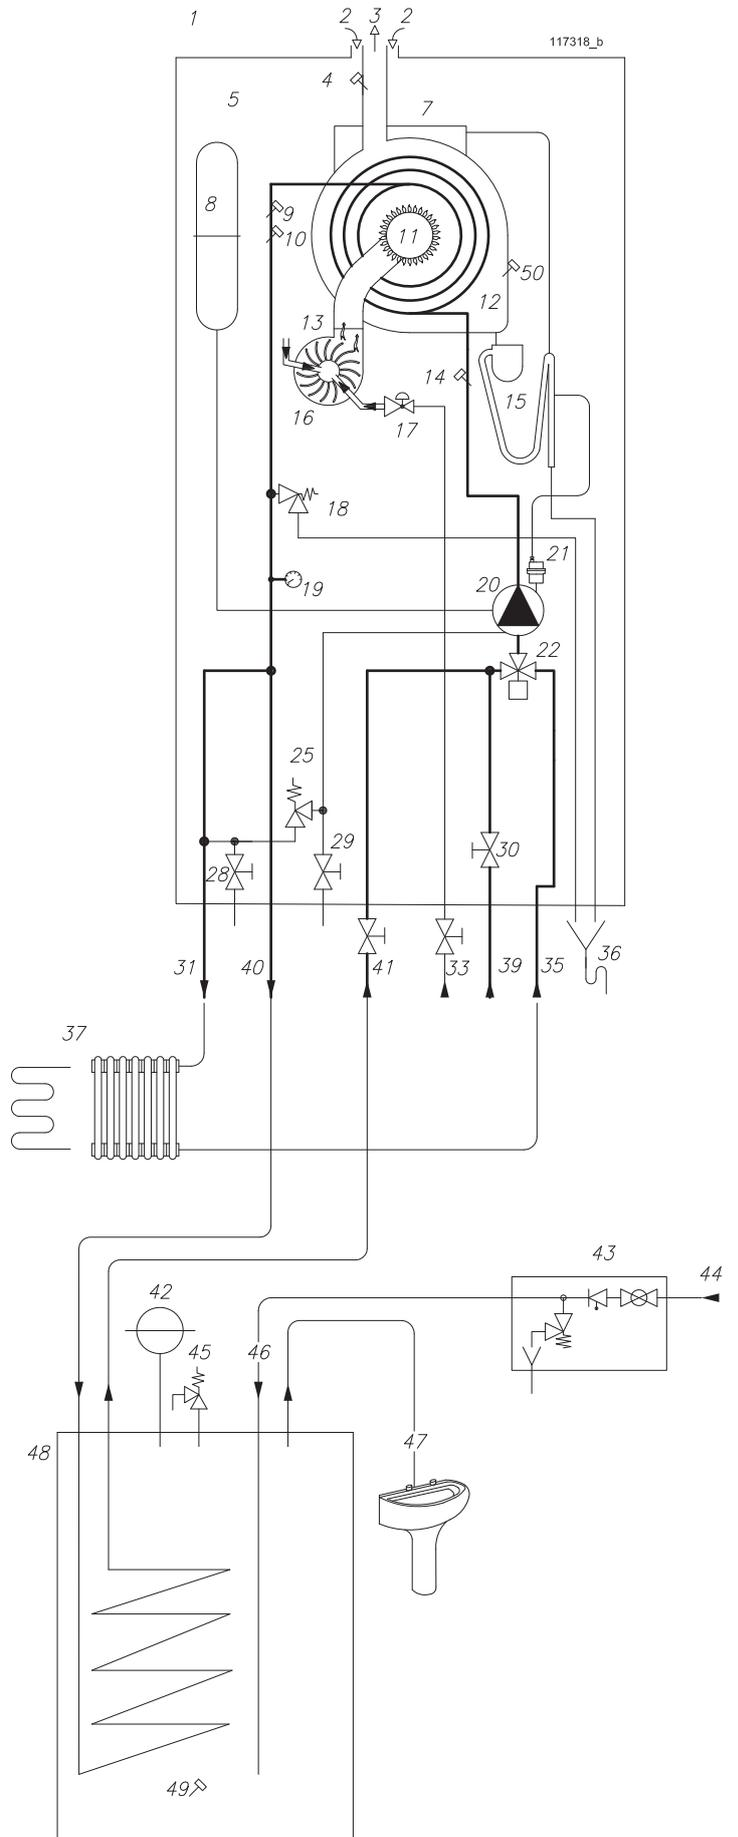

Figure 4-2 – Hydraulic layout
B) - MYDENS -- "B". With this boiler it is possible to create a system to produce domestic hot water via a coil-type storage indirect water heater and a central heating system with the heating elements operating at a temperature between 30°C and 80°C. An example of this type of set-up is given in fig. 4-2.